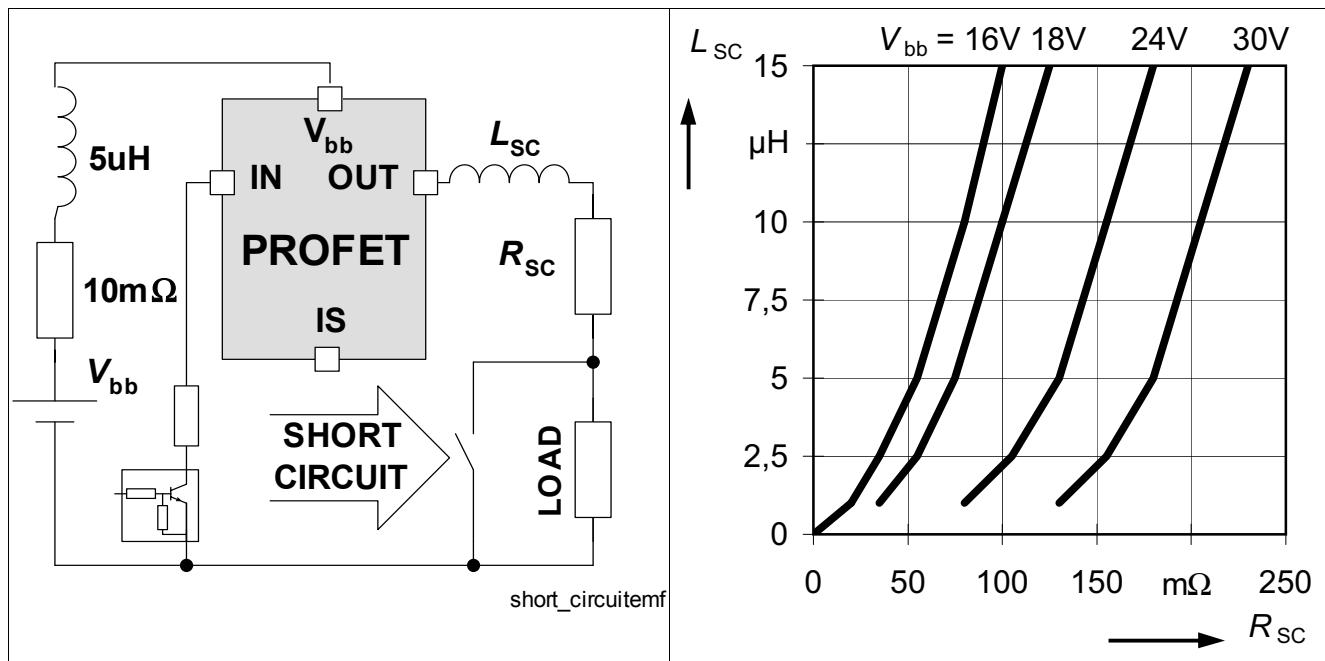

Figure 13 Short circuit
2) Short circuit is defined as a combination of remaining resistances and inductances. See Figure 13.
The capability to handle single short circuit events depends on the battery voltage as well as on the primary and secondary short impedance. **Figure 13** outlines allowable combinations for a single short circuit event of maximum, secondary inductance for given secondary resistance.